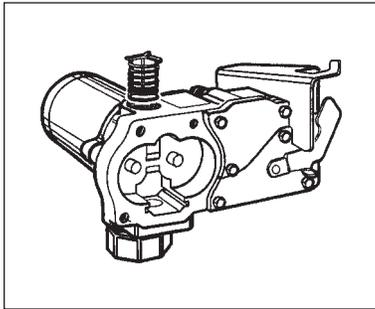

Figure 11
c. From inside the housing, use a small screwdriver to push the poppet and spring through the top outlet port. (Figure 11)